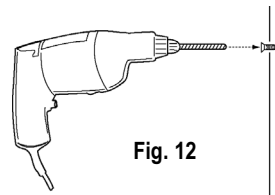

Fig. 12
- 2) Drill two holes for the mounting screws—see **Figure 12**.